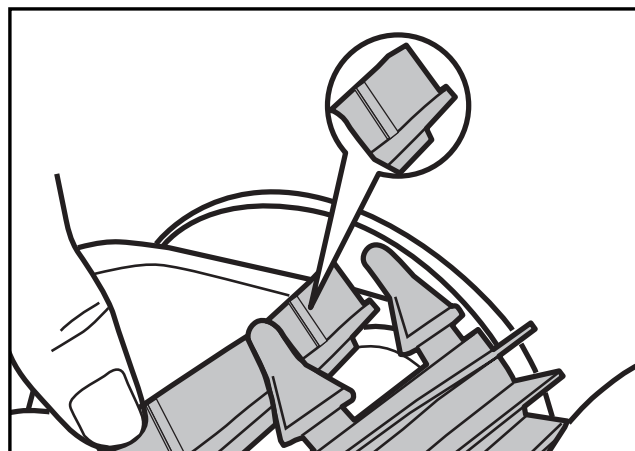

Figure 14. Wear Indicators
The cleaner is fitted with a scrubbing brush in front. There are "wear" indicators (Figure 14) on the brushes. To maintain cleaner performance at its best you need to replace the brush as soon as one of the wear indicators has been reached (even if the blade wear is not even). Baracuda recommends that you replace the brush every two (2) years.